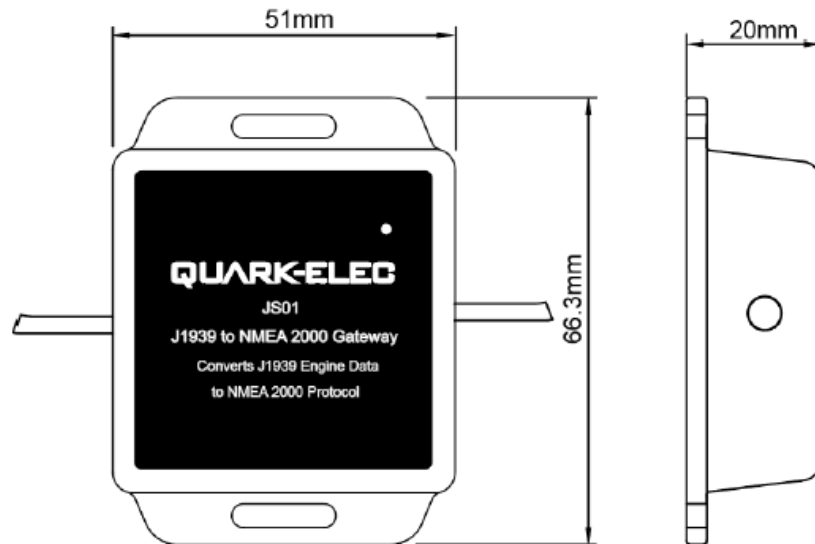

Figure 2: JS01 Dimension in mm
- Dimensions: Refer to Figure 2 in manual for exact dimensions